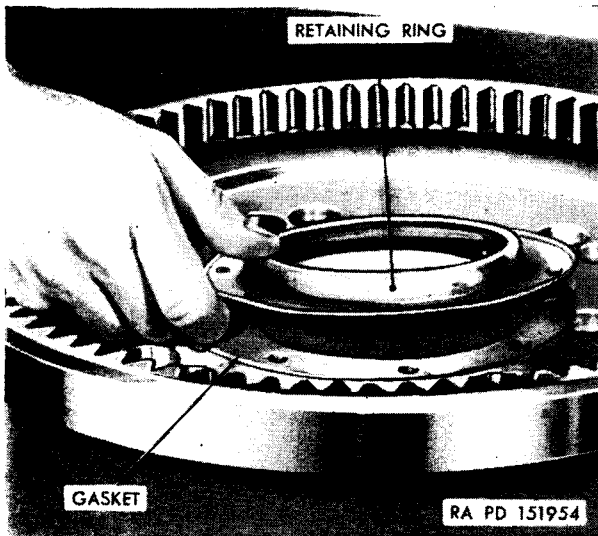

Figure 215. Removing or installing oil retaining ring.
j. REVERSE-RANGE RING GEAR ASSEMBLY. Inspect the reverse-range ring gear assembly (fig. 214). Inspect the oil retaining ring. If it is necessary to remove the oil retaining ring from the ring gear, remove the eight bolts from the retaining ring using a $\frac{1}{16}$ -inch wrench. Remove the oil retaining ring and gasket (fig. 215). Replace any defective parts. To assemble, install the gasket and oil retaining ring on the ring gear. Secure the ring to the gear with eight $\frac{1}{4}$ -inch bolts.